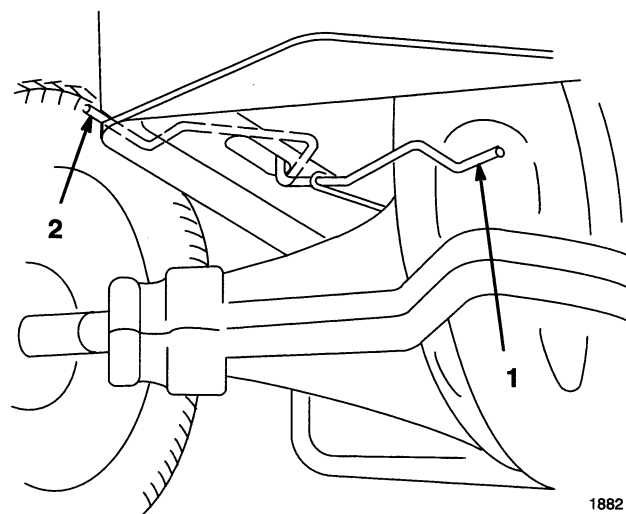

Figure 7
2. Place the drive control in the "Push" position (Fig. 7).
3. Run engine at a low idle and move traction control pedal forward for five (5) seconds then reverse for five (5) seconds. Repeat three (3) times.
4. Place the drive control in the "Operate" position (Fig. 7). Drive the tractor forward then reverse approximately five (5) feet. Repeat three (3) times.